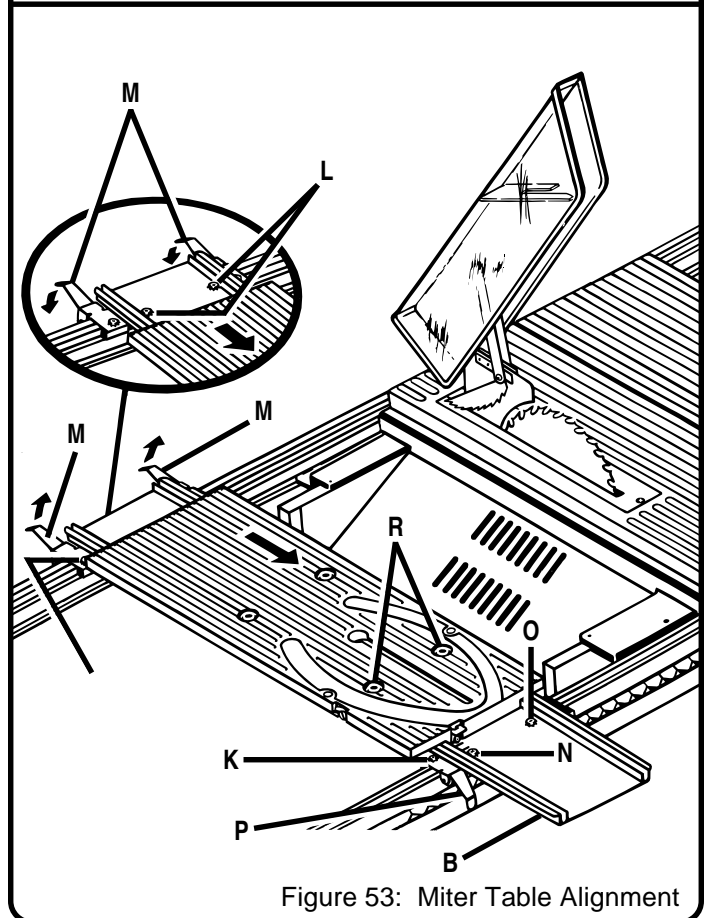

Figure 53: Miter Table Alignment
1. Four screws (K) are on the holder plates and secure these plates to the rails. It is not necessary to loosen or adjust these screws for this adjustment procedure.
2. Another pair of screws (L) is in the base, at the rear. Loosen these two screws (L) and the rear miter locking clamps (M). See Figure 53.
3. The last pair of screws is located on the infeed side of the base. Loosen the left screw (N) **only**.
4. The right screw (O) will be used as a pivot point.